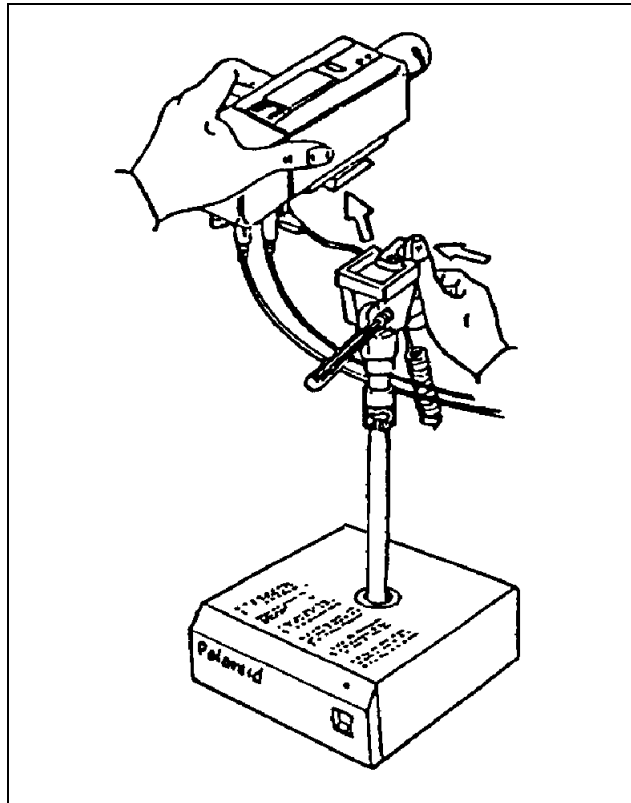

Figure 7-2. Removing the Camera from the Mounting Pole
3. Remove the camera from the mounting pole (Figure 7-2).